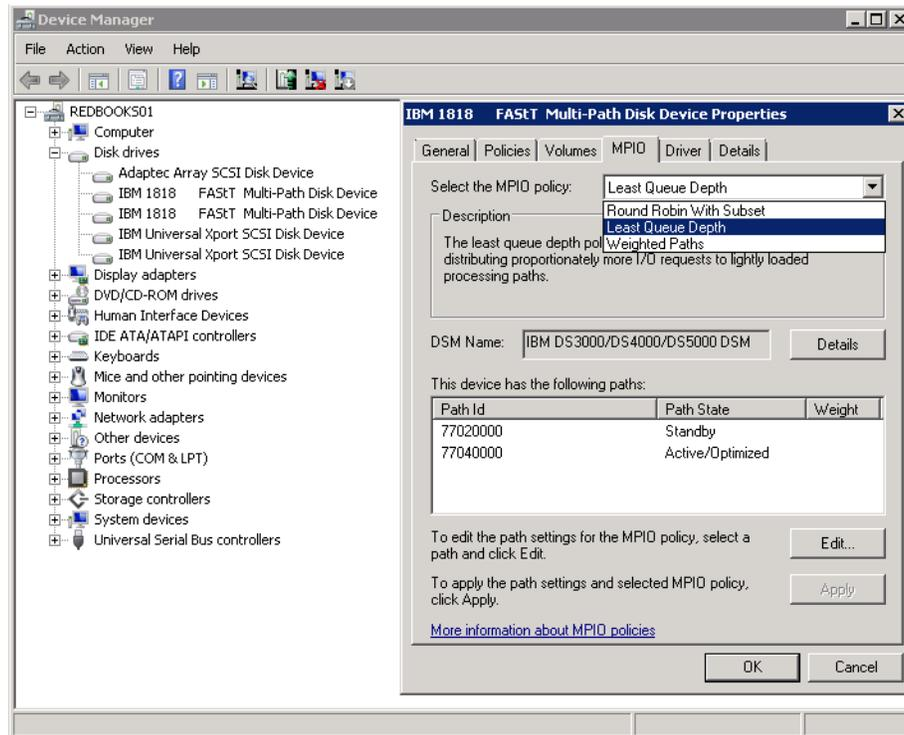

Figure 4-21 MPIO device paths load balance policies
2. Select the **MPIO** tab to display the various paths to the DS Storage System. From the same Properties window, you can set the various **Load Balance** policies for the MPIO driver. Depending on the current physical path state and the policy selected, the paths are either both Active (round robin, weighted paths), or one is Active and the other is Standby (Fail Over, Least Queue Depth). See Figure 4-21.